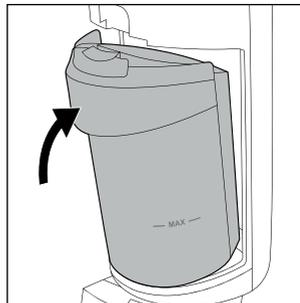

Fig. 30
- ◆ Fit the waste water tank **2** back onto the appliance by inserting the bottom of the waste water tank **2** first. Then push the waste water tank **2** into the appliance until the waste water tank **2** audibly clicks into place (see fig. 30).